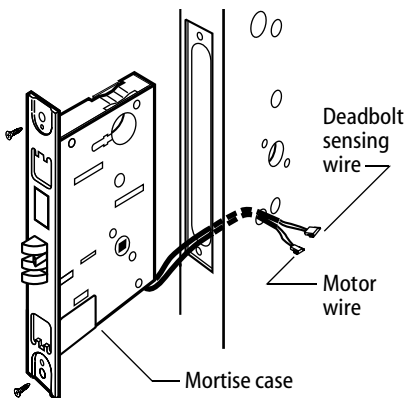

Figure 7
- 2 Install the mortise case while feeding the motor wire and deadbolt sensing wire (deadbolt function only) into the mortise cavity and out the wire hole (see Figure 7).